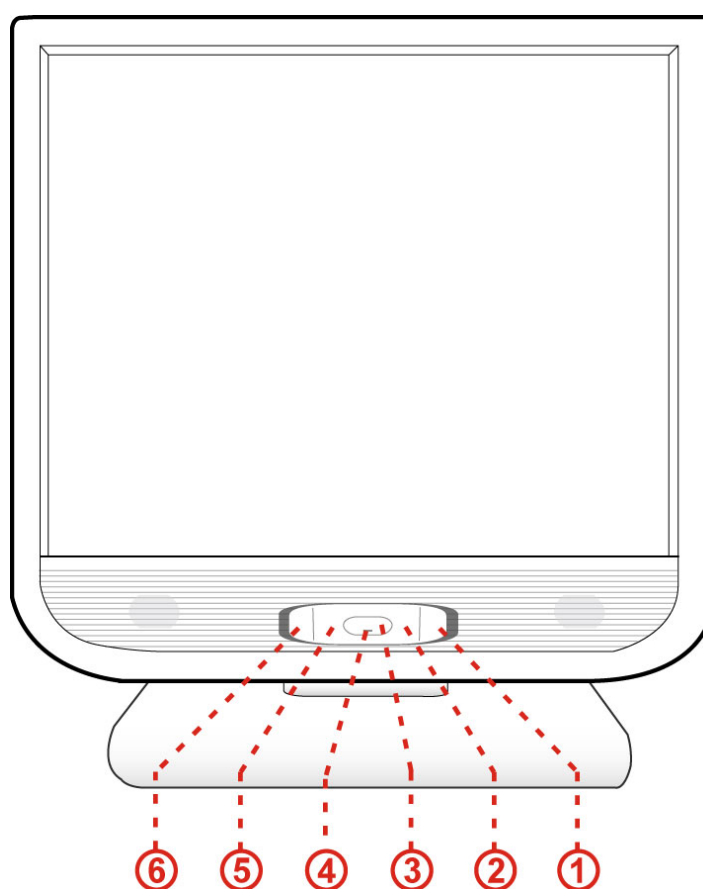

Figure.4. External Control Button
Press the power button to turn the monitor on or off. The other control buttons are located at front panel of the monitor (See Figure 4). By changing these settings, the picture can be adjusted to your personal preferences.
<p>The diagram shows the 'BRIGHTNESS CONTRAST' OSD menu. At the top, it has a title bar with icons for brightness, contrast, RGB, image, and a red 'R' button, followed by an 'Exit' button. Below the title bar, there are two menu items: 'BRIGHTNESS' and 'CONTRAST', each with a right-pointing arrow. At the bottom, there are three control buttons: '&lt; &gt; ADJUST', 'MENU:ENTER', and 'AUTO:EXIT'.</p>	<p>Brightness/Contrast adjustment:</p> <p>Brightness: Adjusts brightness by using the buttons &lt; or &gt; (② and ⑤ in fig. 4).</p> <p>Contrast: Adjusts screen contrast by using the buttons &lt; or &gt; (② and ⑤ in fig. 4).</p>
<p>The diagram shows the 'IMAGE CONTROL' OSD menu. At the top, it has a title bar with icons for brightness, contrast, RGB, image, and a red 'R' button, followed by an 'Exit' button. Below the title bar, there are five menu items: 'AUTO ADJUSTMENT', 'H. POSITION', 'V. POSITION', 'CLOCK', and 'PHASE', each with a right-pointing arrow. At the bottom, there are three control buttons: '&lt; &gt; ADJUST', 'MENU:ENTER', and 'AUTO:EXIT'.</p>	<p>Image Control:</p> <p>Auto Adjustment: Automatically selects the optimal settings for image parameters (image position, phase, etc.) by using the button MENU (① in fig. 4).</p> <p>H. Position: Controls the picture's horizontal position.</p> <p>V. Position: Controls the picture's vertical position.</p> <p>Clock: Sets up the internal clock. Larger values make the displayed image appear wider; smaller values make it appear compressed.</p> <p>Phase: Adjusts the internal clock's time lag in order to optimize the screen image.</p>
<p>The diagram shows the 'COLOR' OSD menu. At the top, it has a title bar with icons for brightness, contrast, RGB, image, and a red 'R' button, followed by an 'Exit' button. Below the title bar, there are three menu items: '9300K', '6500K', and 'CUSTOM COLOR', each with a right-pointing arrow. At the bottom, there are three control buttons: '&lt; &gt; ADJUST', 'MENU:ENTER', and 'AUTO:EXIT'.</p>	<p>Color:</p> <p>This menu lets you select a preset color temperature (9300K, 6500K) by pressing the OSD buttons &lt; or &gt; (② and ⑤ in fig. 4). Changes to the color temperature take immediate effect on screen. If you wish to set individual color values, select the Custom Color option. Then press the MENU button (① in fig. 4) to select the red, green and blue settings and set the desired value using the OSD buttons &lt; or &gt; (② and ⑤ in fig. 4). The current settings are automatically saved when you return to the previous level or exit the OSD menu.</p>